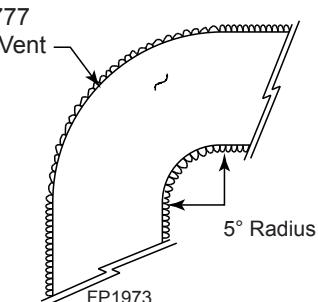

Figure 27 -
3. Do not allow the flexible vent to bend in radius tighter than 5°. *Figure 27*